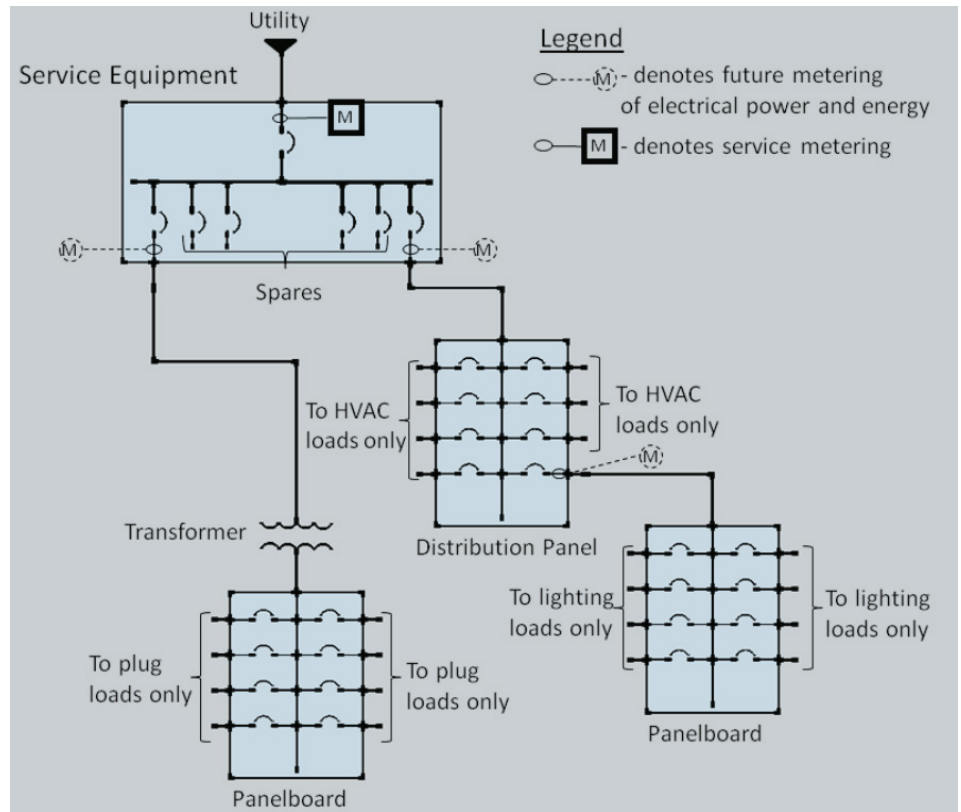

Figure 1 - Loads separated by panelboards and subpanels
Section 130.5(b) of the 2013 Energy Code specifically required separate panelboards or subpanels for each load type. This design approach allows for measuring each electrical load at the feeder to the panelboard or subpanel using a current transformer (CT). See Figure 1 for an example of this design approach.